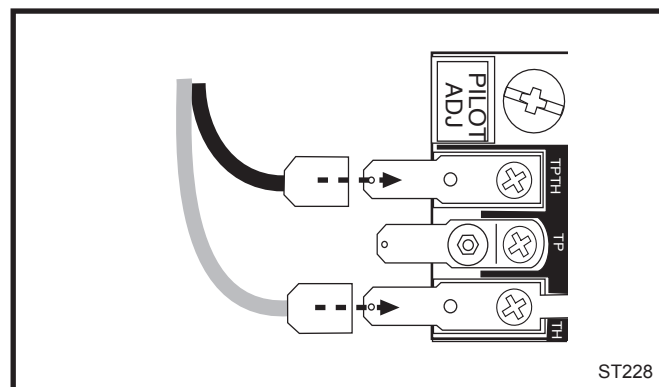

Fig. 43 Attach switch wires to valve.
3. Attach wires to valve terminals. (Fig. 43)
2. Connect the thermostat wires to the valve. (Fig. 43)